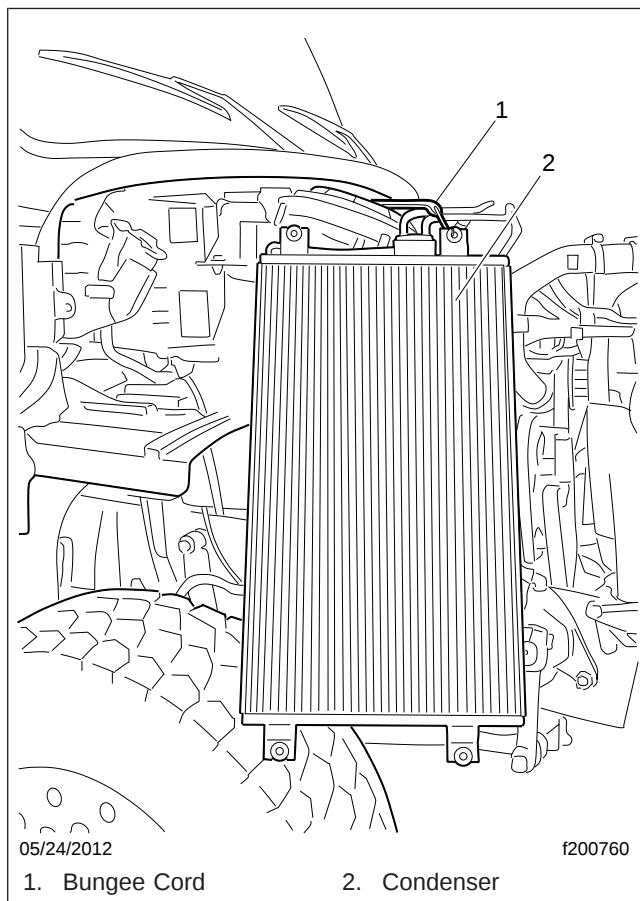

Fig. 9, Securing the A/C Condenser
10.4 Carefully move the condenser around and set it on right front tire. Secure it as needed. See Fig. 9.